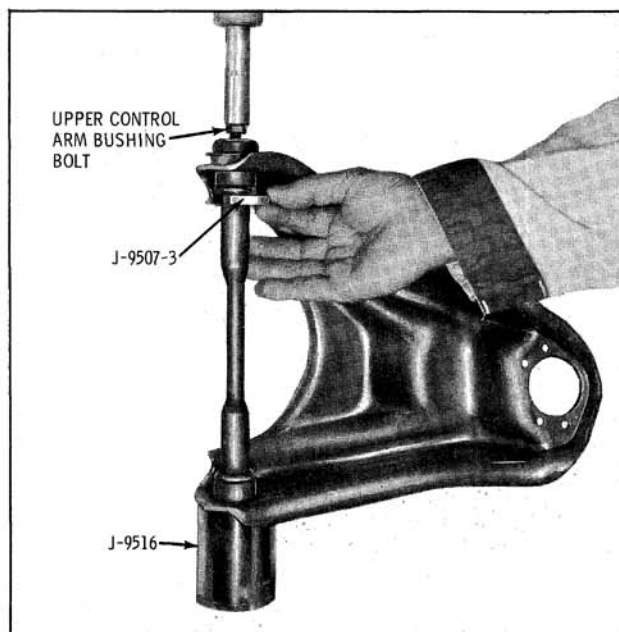

Fig. 9-132 Installing "C" Washer
2. Remove bushing bolts and retainers. Set up arm in press as shown in Fig. 9-132. Press on bolt (upper control arm bushing bolt which has been partially threaded into shaft) until "C" Washer J-9507-3 can be inserted.